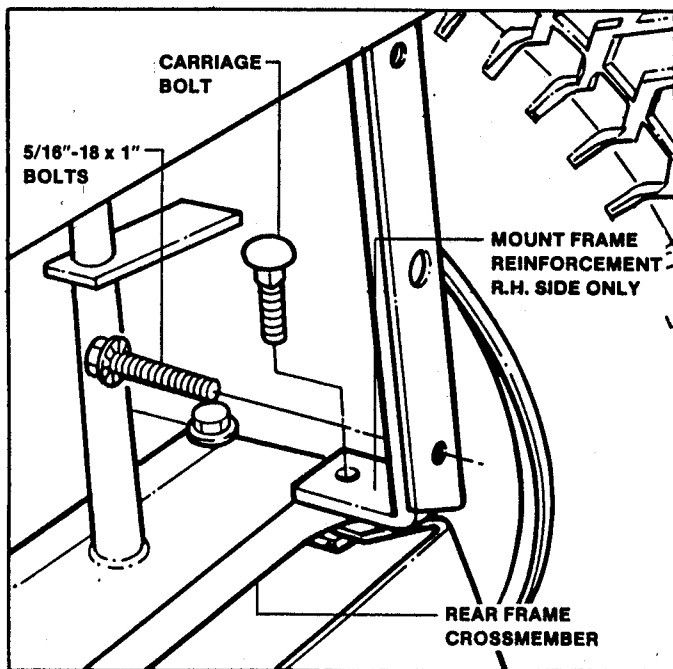

FIGURE 2
2. Remove bolt from rear frame crossmember and install the frame reinforcement (Part number 3-2505) on the right hand side only. Replace the crossmember bolt with the 3/8" UNC x 1" carriage bolt (Part number 9-0645) and nut (Part number 9-0613). Replace the four (4) rear plate bolts with 5/16"-18 x 1" bolts (Part number 9-0661) from inside frame and tighten securely. See Figure 2.